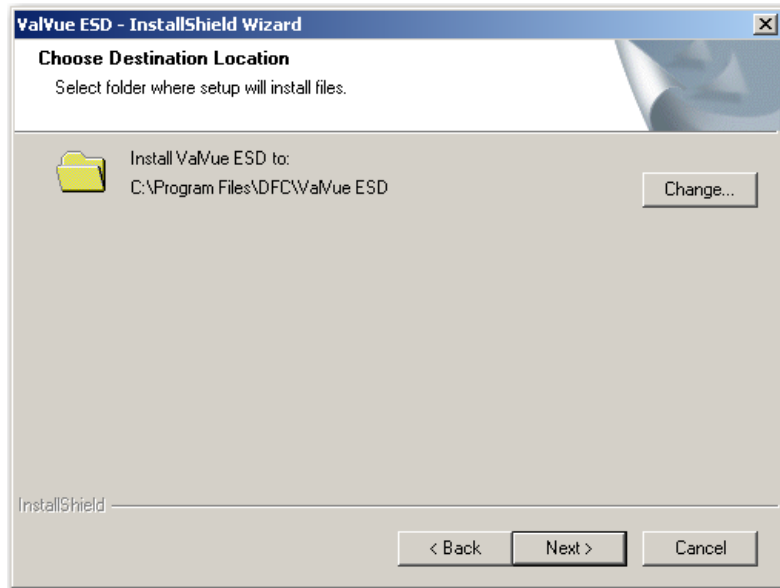

Figure 6 Choose Destination Location
5. Click the accept radio button, click **Next** and the *Choose Destination Location* screen appears (Figure 6).